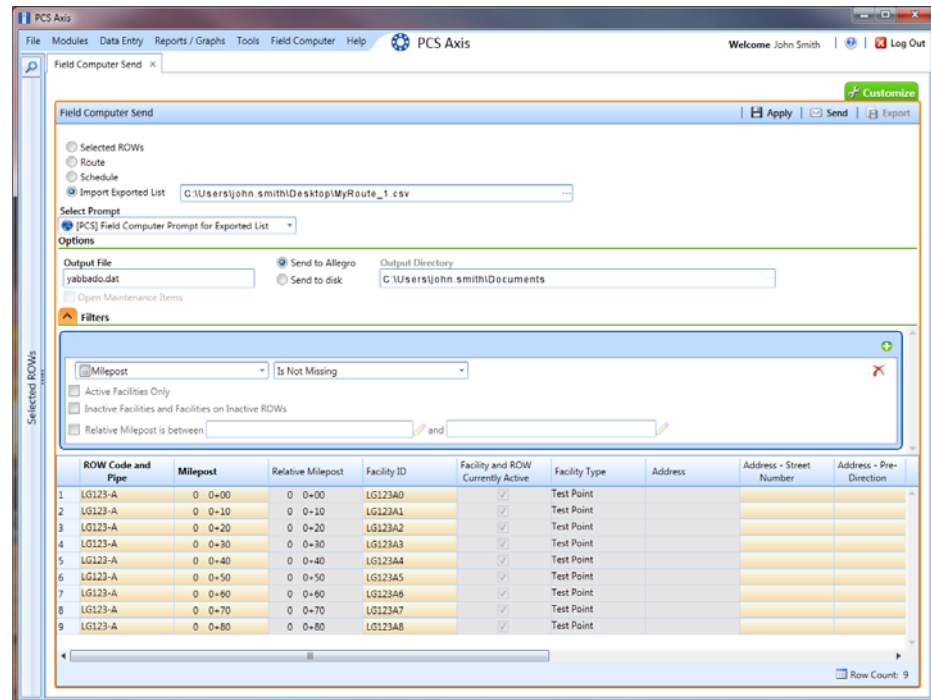

Figure 13-15. New 'And' Filter
- 4 Click the option **Import Exported List** (Figure 13-15, page 535).
- 10 If you want to work with a subset of facility records that meet *all* filter conditions, create an AND filter group using the following steps (Figure 13-15):